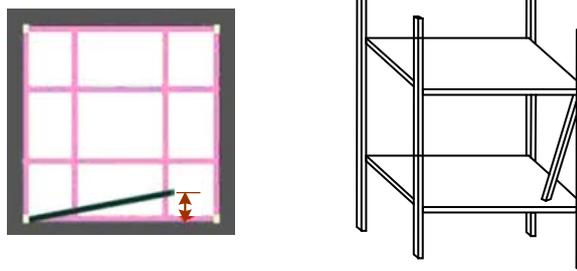

Figure 13. An exterior bracing.
4.8.3 When the distance between the end of a vertical member/material and the floor edge is less than 2.5 cm, this member/material is considered as an exterior bracing (Figure 13). An exterior bracing affects only the computation of the exterior clearance rather than the interior clearance.